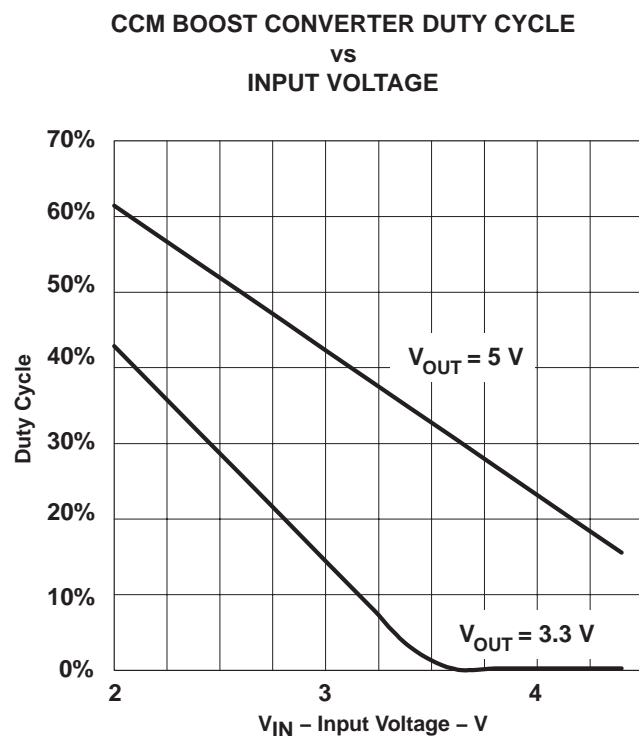

Figure 9
All boost and flyback converters using peak current mode control are susceptible to a phenomenon known as subharmonic oscillation when operated in the continuous conduction mode beyond 50% duty cycle. Continuous conduction mode (CCM) means that the inductor current never goes to zero during the switching cycle. For a CCM boost converter, the required duty cycle for a given input and output voltage (neglecting voltage drops across the MOSFET switches) is given by equation (7). This is shown graphically for a number of common output voltages in Figure 9. For example, it can be seen that for a 3.3-V output (using the boost topology) slope compensation is not required because the duty cycle never exceeds 50%.